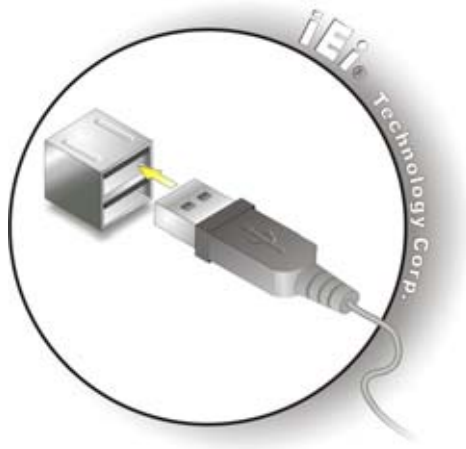

Figure 2-10: USB Device Connection
Step 2: **Align the connectors.** Align the USB device connector with one of the connectors on the bottom panel. See Figure 2-10.